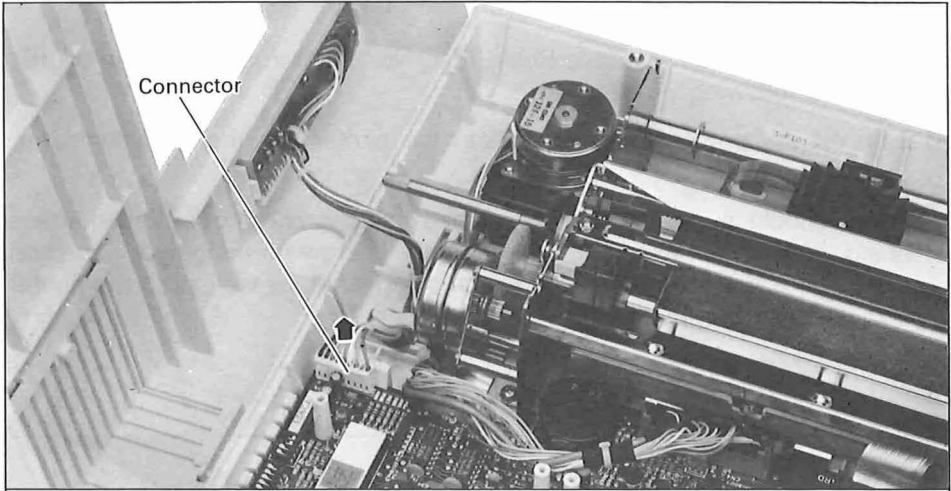

Fig. 4 Removal of Upper Case (2)
- (4) Lift the upper case of the printer, unplug the cable connector connecting the control panel and the control circuit board from the control circuit board. (See Fig. 4.)